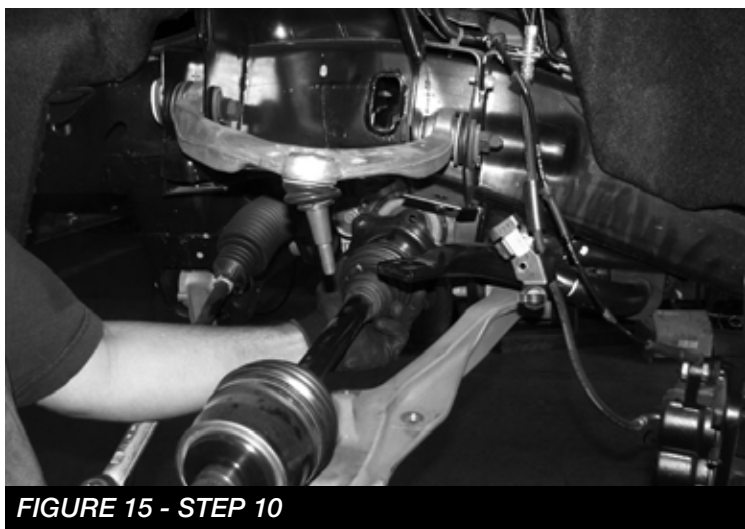

**FIGURE 11 - STEP 8**
8. Remove the sway bar end link bolt and the end link, save the bolt for reinstallation. **SEE FIGURE 11**